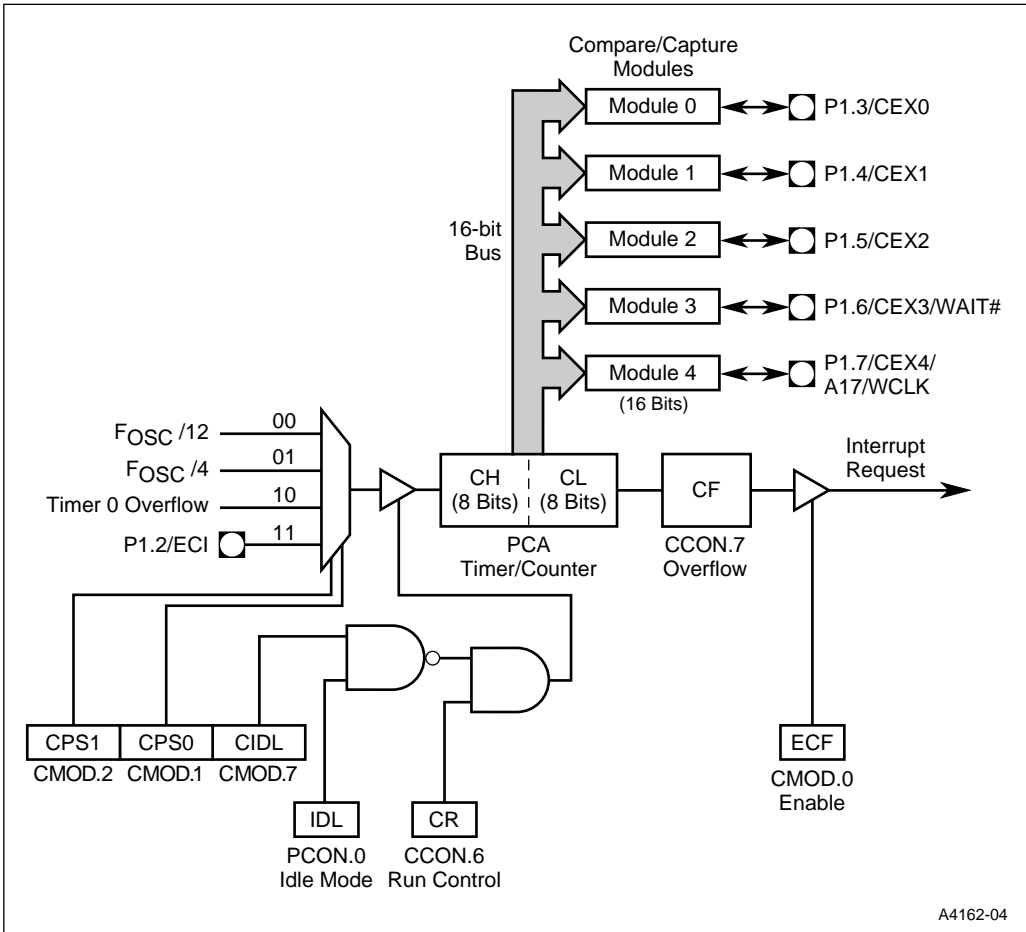
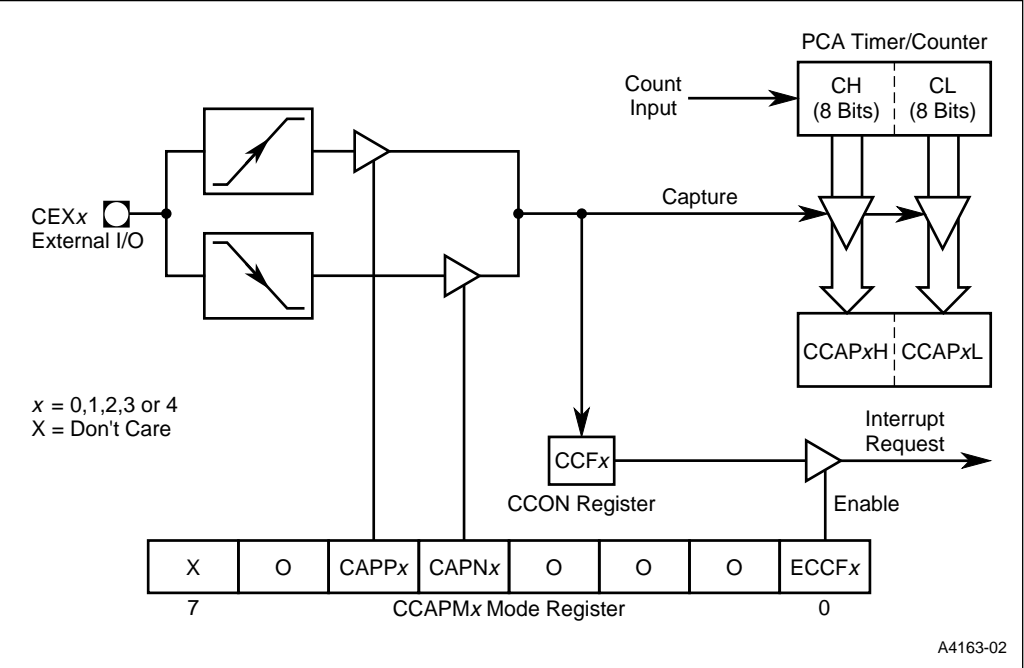

Figure 11-1. Programmable Counter Array†
Figure 11-2. PCA 16-bit Capture Mode
The programmable counter array (PCA) consists of a 16-bit timer/counter and five 16-bit compare/capture modules. The timer/counter serves as a common time base and event counter for the compare/capture modules, distributing the current count to the modules by means of a 16-bit bus. A special function register (SFR) pair, CH/CL, maintains the count in the timer/counter, while five SFR pairs, CCAPxH/CCAPxL, store values for the modules (see Figure 11-1). Additional SFRs provide control and mode select functions as follows:
The PCA timer/counter and the five compare/capture modules share a single interrupt vector. The EC bit in the IEN0 special function register is a global interrupt enable for the PCA. Capture events, compare events in some modes, and PCA timer/counter overflows set flags in the CCON register. Setting the overflow flag (CF) generates a PCA interrupt request if the PCA timer/counter interrupt enable bit (ECF) in the CMOD register is set (Figure 11-1). Setting a compare/capture flag (CCFx) generates a PCA interrupt request if the ECCFx interrupt enable bit in the corresponding CCAPMx register is set (Figures 11-2 and 11-3). For a description of the 8X930Ax interrupt system see Chapter 6, "Interrupt System."
Figure 11-1 depicts the basic logic of the timer/counter portion of the PCA. The CH/CL special function register pair operates as a 16-bit timer/counter. The selected input increments the CL (low byte) register. When CL overflows, the CH (high byte) register increments after two oscillator periods; when CH overflows it sets the PCA overflow flag (CF in the CCON register) generating a PCA interrupt request if the ECF bit in the CMOD register is set.
Setting the run control bit (CR in the CCON register) turns the PCA timer/counter on, if the output of the NAND gate (Figure 11-1) equals logic 1. The PCA timer/counter continues to operate during idle mode unless the CIDL bit of the CMOD register is set. The CPU can read the contents of the CH and CL registers at any time. However, writing to them is inhibited while they are counting (i.e., when the CR bit is set).
The logical configuration of a compare/capture module depends on its mode of operation (Figures 11-2 through 11-5). Each module can be independently programmed for operation in any of the following modes:
The capture mode (Figure 11-2) provides the PCA with the ability to measure periods, pulse widths, duty cycles, and phase differences at up to five separate inputs. External I/O pins CEX0 through CEX4 are sampled for signal transitions (positive and/or negative as specified). When a compare/capture module programmed for the capture mode detects the specified transition, it captures the PCA timer/counter value. This records the time at which an external event is detected, with a resolution equal to the timer/counter clock period.